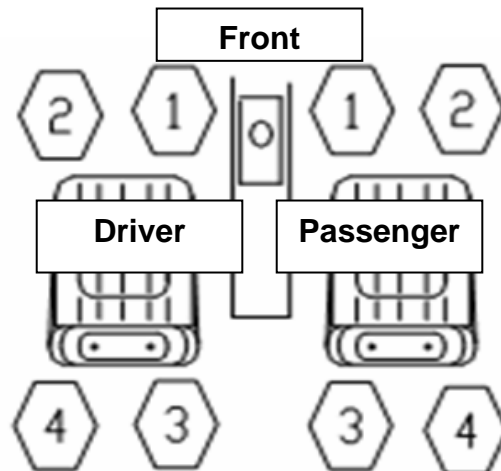

Figure 15
19. Install the seat mounting bolts by hand, then tighten and torque the bolts in the order shown in Figure 15.